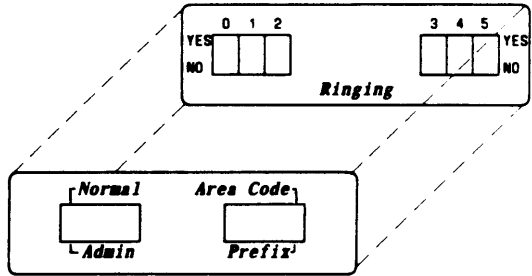

Figure 3. Model 206 Control Unit Switches Label
7. For Model 206 or Model 410, get appropriate switch label supplied in cartridge package (Figure 3 or 4) as applicable.
8. Peel off backing and place label around switches as shown in Figure 3 or 4 as applicable. Press firmly to ensure adherence.